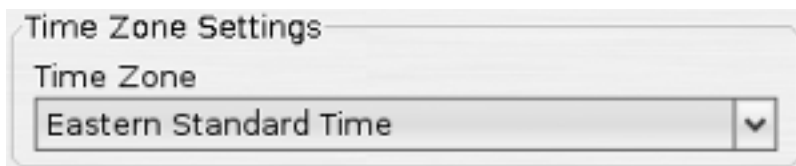

Figure 11.6. Time Zone Setting
2. Under the "Time Zone Settings" section select the timezone of the home terminal that the driver is based out of see Figure 11.6, "Time Zone Setting".